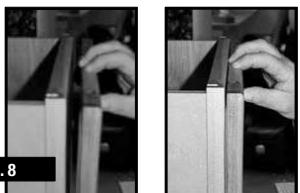

fig. 8
Step 10. Be sure bumper pad are installed to all four corners of the door. Push door closed and apply pressure to all four corners making sure door is flush with cabinet. (See figure 8)